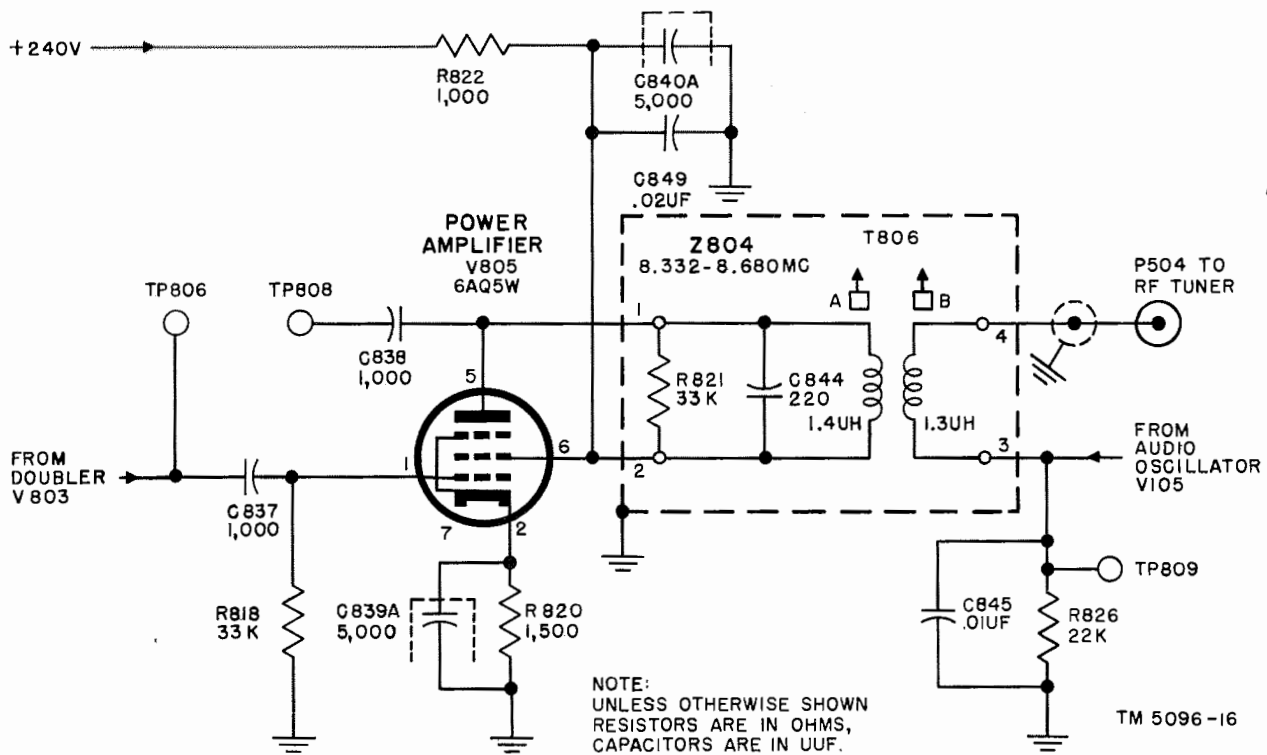

Figure 22. Power amplifier V805, band-pass circuit, simplified schematic diagram.
- (2) The input signal is coupled through capacitors C827 and C841 to the control grid. The grid return is provided by resistor R823. The tuned plate load network Z803 for the stage consists of T805A and C846 in the primary and T805B and C848 in the secondary. The output signal developed in the secondary is coupled through P503 to the rf tuner subchassis. When the frequency meter is in the COARSE position, the audio signal from audio oscillator V105 is applied through the secondary circuit to the rf tuner.
- (3) Cathode bias for V804 is provided by R824 and C842A. Plate and screen voltage (+240 volts) is supplied through RANGE switch S801, section 1, and through screen dropping and decoupling resistor R825. Capacitor C843A completes the plate decoupling circuit as well as bypassing the screen for rf.
d. *Power Amplifier V805* (fig. 22).
- (1) The 6AQ5 type beam-power amplifier V805 produces a strong signal for the crystal harmonic generator in the rf tuner so that relatively weak upper harmonics are strong enough to be used effectively. The input signal is coupled through C837 across R818 and applied to the control grid of V805. The output signal is developed in the tuned plate load network Z804 consisting of the primary of T806, C844, and loading resistor R821. The signal is inductively coupled to the secondary of T806 and applied through P504 to the rf tuner subchassis. Network Z804 is permeability tuned to pass unattenuated signals in the 8.322- to 8.680-mc range. The signal from audio oscillator V105 is also applied through the secondary to the rf tuner when the frequency meter is placed in the COARSE position.
- (2) Plate and screen voltage is supplied to V805 through RANGE switch S801 when the FUNCTION SWITCH is in the 225-